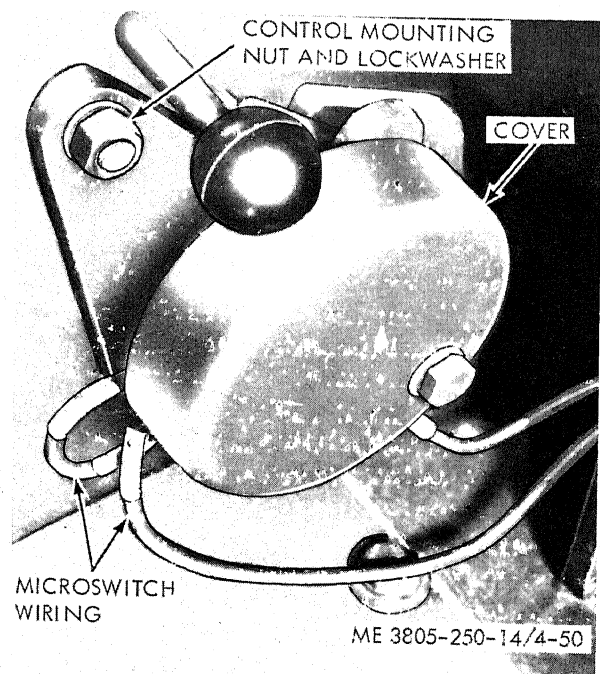

Figure 4-50. Bucket height kickout control, removal and installation.
b. *Removal.* Refer to figure 4-50.
- (1) Remove bolt and lockwasher securing cover to mechanism.
- (2) Tag and disconnect wiring to microswitch.
- (3) Remove three bolts from outside of the cabin and three nuts and lockwashers securing control to the side of the cab.
- (4) Remove setscrew and remove height control collar and pin assembly at the lift arm.
- (5) Pull the control into the cabin and remove from loader.